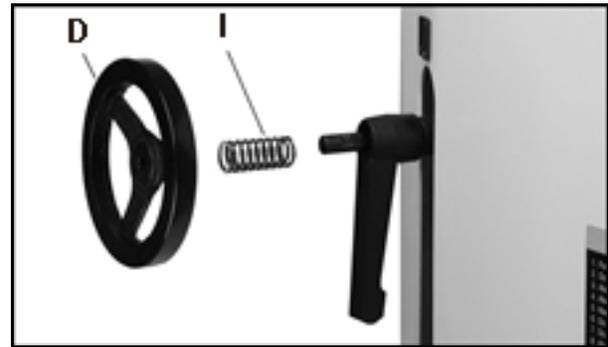

Figure 6
6. Place spring (I, Figure 6) onto rear drum adjustment shaft, and push it into recess in locking handle. Attach small handwheel (D, Figure 6) and tighten the two set screws on the flats of the shaft.